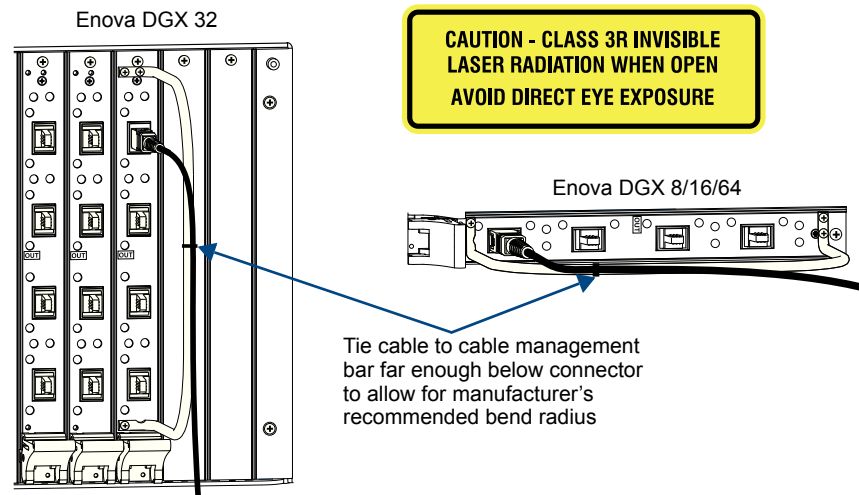

FIG. 66 Fasten cables onto input and output connectors (shown with cable management bar)
4. Insert the fiber cable connector into the input and output SC fiber receptacles (FIG. 66).